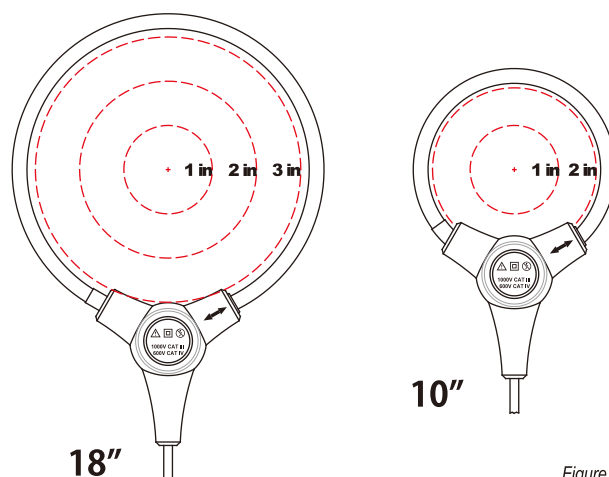

Figure 1.
**Position Sensitivity:** Refer to Figure 1.